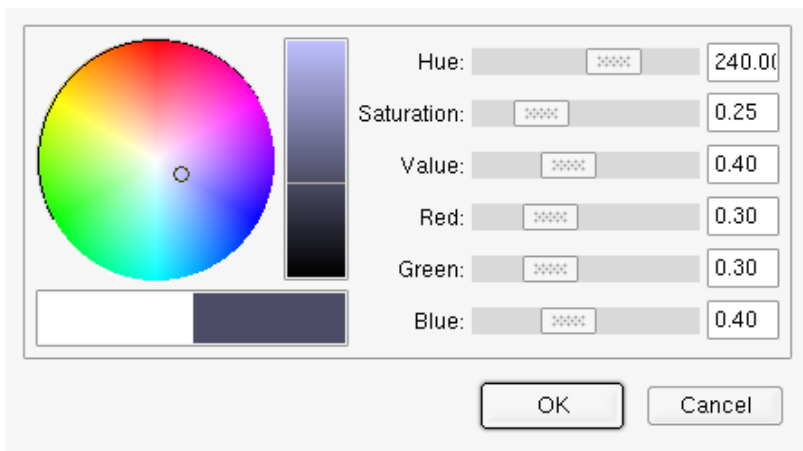

Figure 2.30: Background Color window
- **Options**→**Background** shows the Background Color window, Figure 2.30.